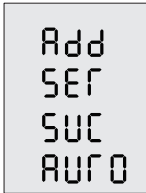

Figure 5-8
- Step6:** After pairing, the LCD panel will display as Figure 5-8 for 5s, then returning to home page automatically.